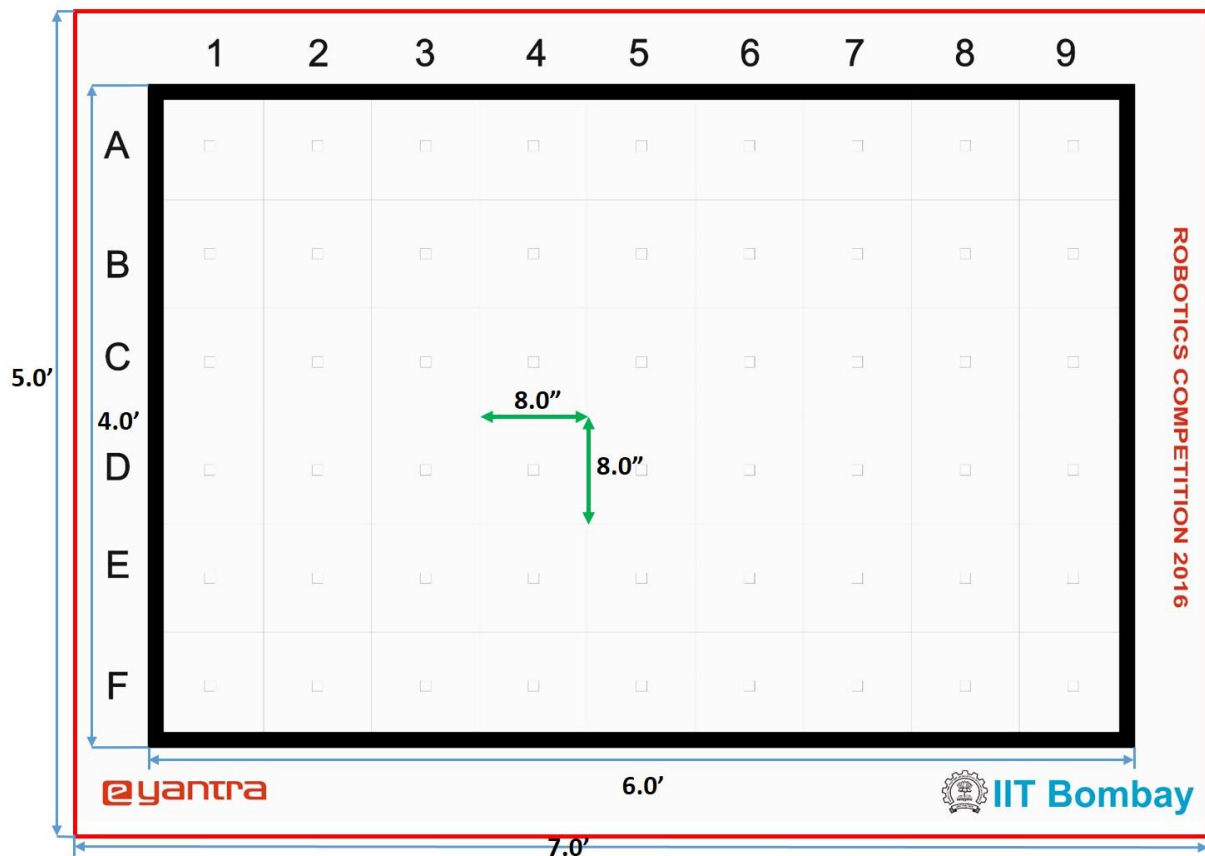

Figure 2: Arena with Dimensions
Flex design is shown in Figure 2. A Portable Document Format (.pdf) file containing the flex design is provided to the teams. Each team prints the flex design according to the direction given in the Readme file.
Dimension of arena is shown in Figure 2.
- Outer dimension of arena is 7 x 5 feet (marked by red border in Figure 2).
- Inner dimension of arena is 6 x 4 feet (marked by blue lines in Figure 2).
- Dimension of each Cell is 8 x 8 inch (marked by green lines in Figure 2).